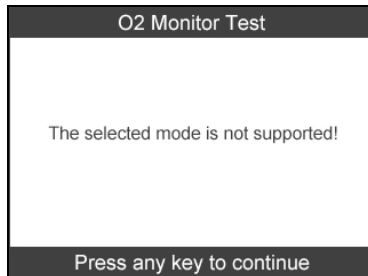

Figure 6.18
- If the vehicle does not support the mode, an advisory message will be displayed on the screen. (Figure 6.18)